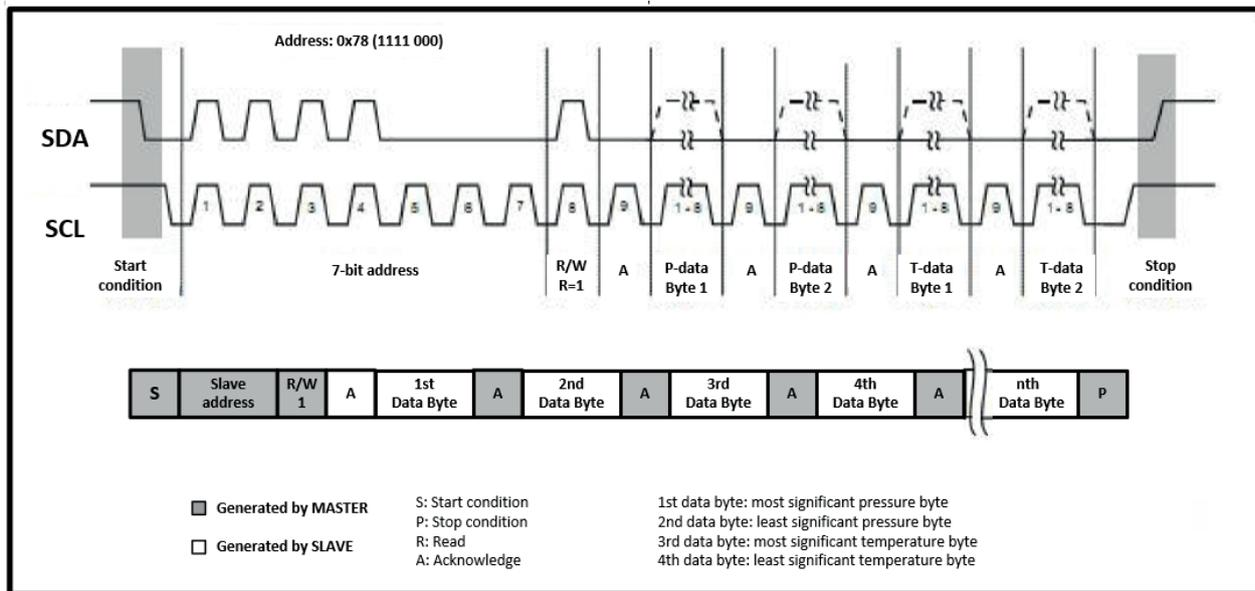

Figure 4. Digital pressure & temperature data transfer from HUBA Type 664 sensor
Digital data transfer is presented in **Figure 4**.
Pressure and temperature output signals from HUBA CONTROL Type 664 come as 15-bit values to the output register. Master, which would like to read this data, starts communication with the start condition. After that, the master sends 7-bit slave address (factory default is 0x78) and data direction bit R/W (for read data R/W="1"). The slave confirms this address with the acknowledge (A) bit first and afterwards sends the desired data with bytes (8 bits): first byte is most significant byte for pressure value, second byte is least significant for pressure value, third byte is most significant byte for temperature value, fourth byte is least significant byte for temperature value. The master must confirm each received byte with the acknowledge bit (see **Figure 4**). Master can stop the data transfer by sending the stop condition or can generate additional acknowledge bit after 4 receiving bytes of data (pressure and temperature) for continuing data receiving from slave (type 664 sensor).